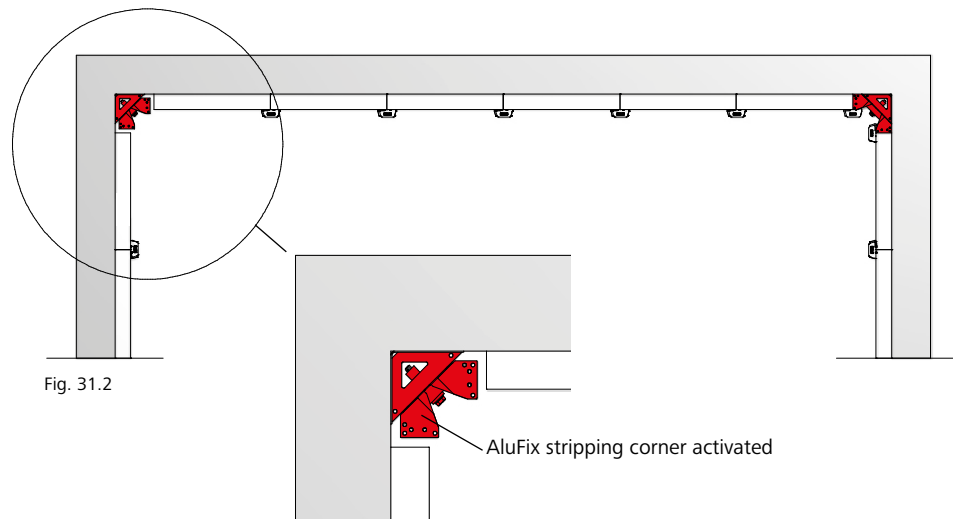

Fig. 31.2
3. Pull the hinged sides of the stripping corners inwards (Fig. 31.2)